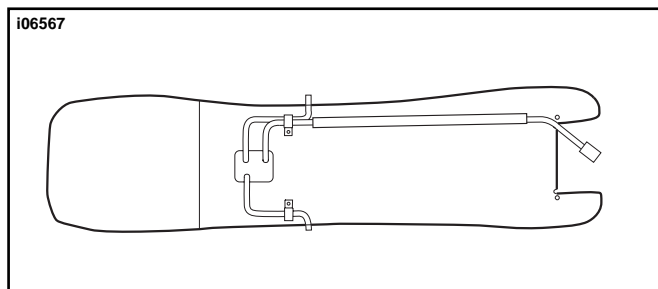

Figure 3. Remove Signal Wires from Clips (under fender) running from signal to tail/stop lamp assembly
- c. See Figure 3. Remove turn signal wiring (running from signal to tail/stop lamp assembly from clip under rear of fender and pull signal wire out. Repeat for the opposite side.